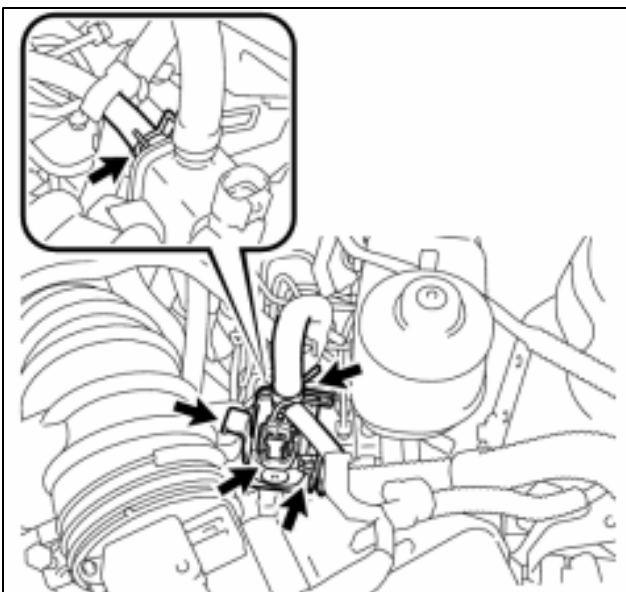

Fig. 3-5
- (2) Remove the Vacuum Switched Valve (VSV) bracket from the slot in the air inlet tube by pulling straight up. (Fig. 3-5)
- (3) Remove the air inlet tube.